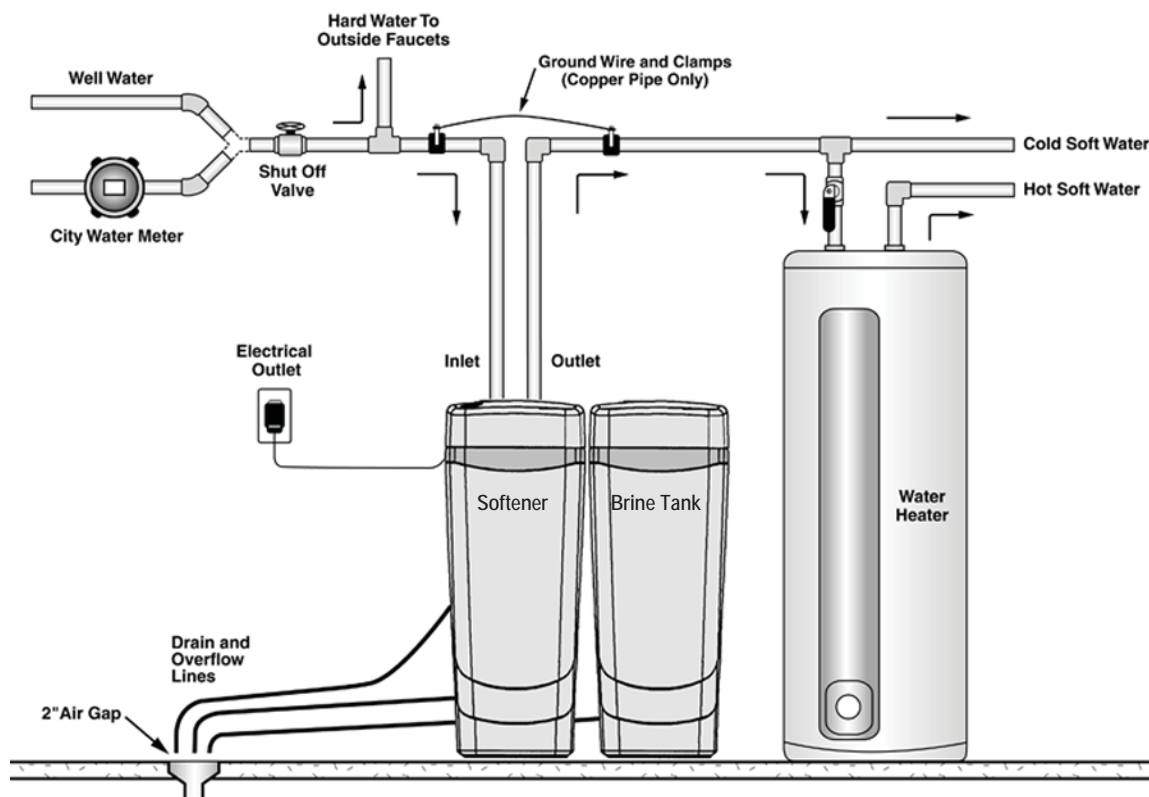

Figure 2: Appliance Placement
- F. Place the appliance in the desired location using Figure 2 as a guide.